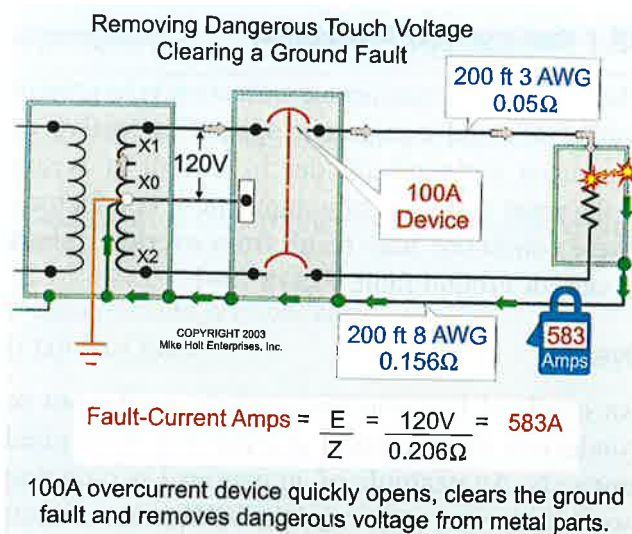

Figure 15-3
- Equipment bonding conductor—200 ft of 8 AWG at 0.156Ω . **Figure 15-3**